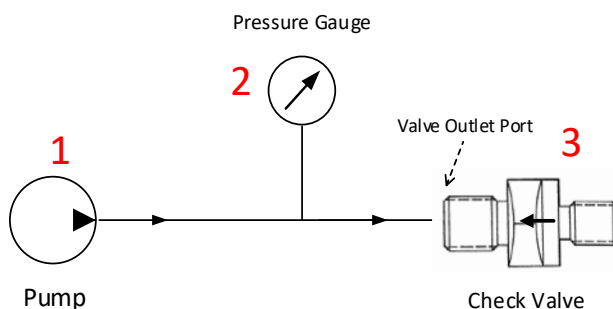

Figure 11: test setup Test Title 3 - 3(1)
(1) Internal Leakage:
- Test set up in accordance to Figure 11.